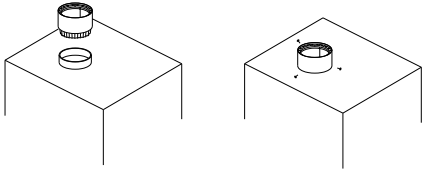

Figure 7
• **Round outlets (Figure 7)**